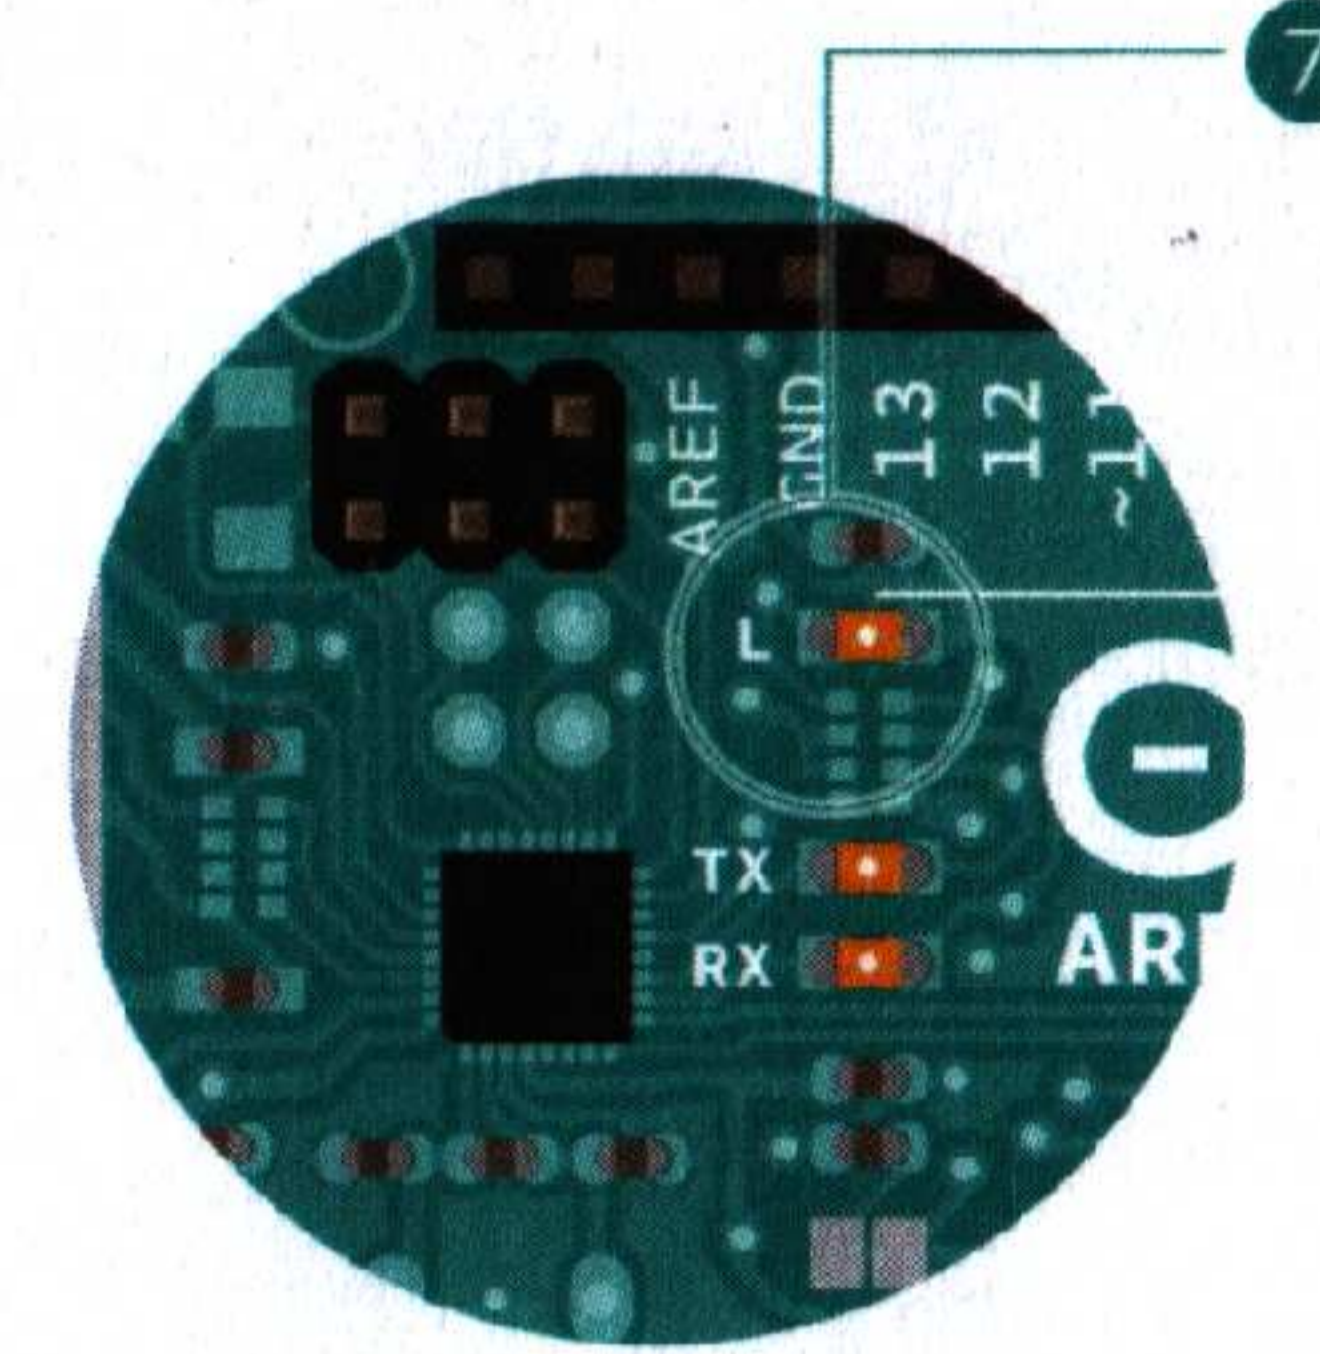

Fig. 2
- 7 A few seconds after the upload has completed, you should see the yellow LED with an **L** next to it start blinking. See Fig. 2. **If this is the case, congratulations! You've successfully programmed the Arduino to blink its onboard LED!**